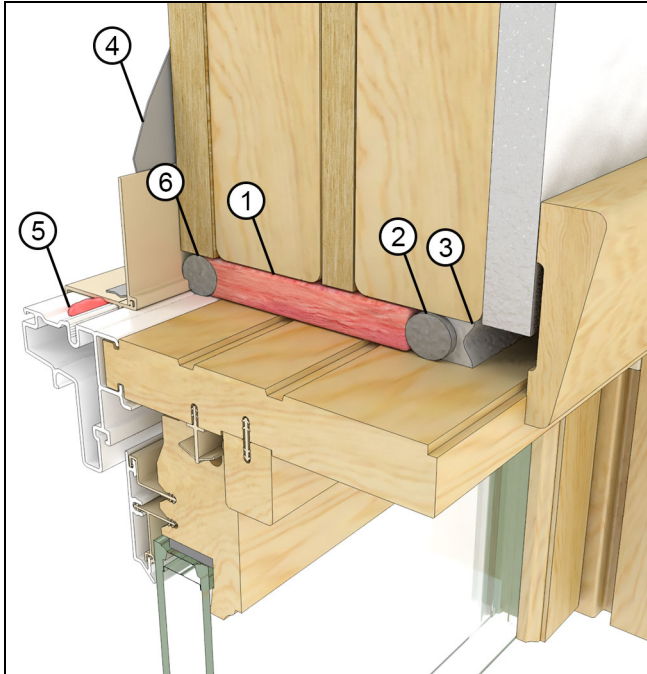

Figure 22
1. Loose Fill Fiberglass Insulation. Insulate the RO cavity with loose fill fiberglass insulation. Install a backer rod and sealant at the interior plane of the RO to create a continuous air seal. See Figure 22.